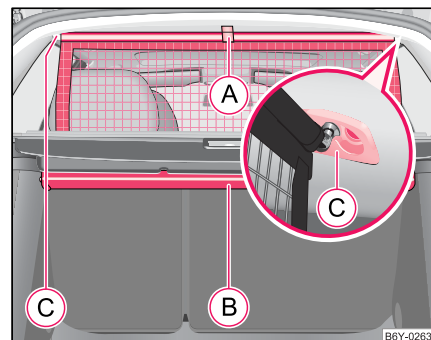

Fig. 57 Unrolling net partition
- Pull the net partition at the bracket **(A)** out of the housing **(B)** in direction of the holders **(C)** ⇒ page 73, fig. 57.